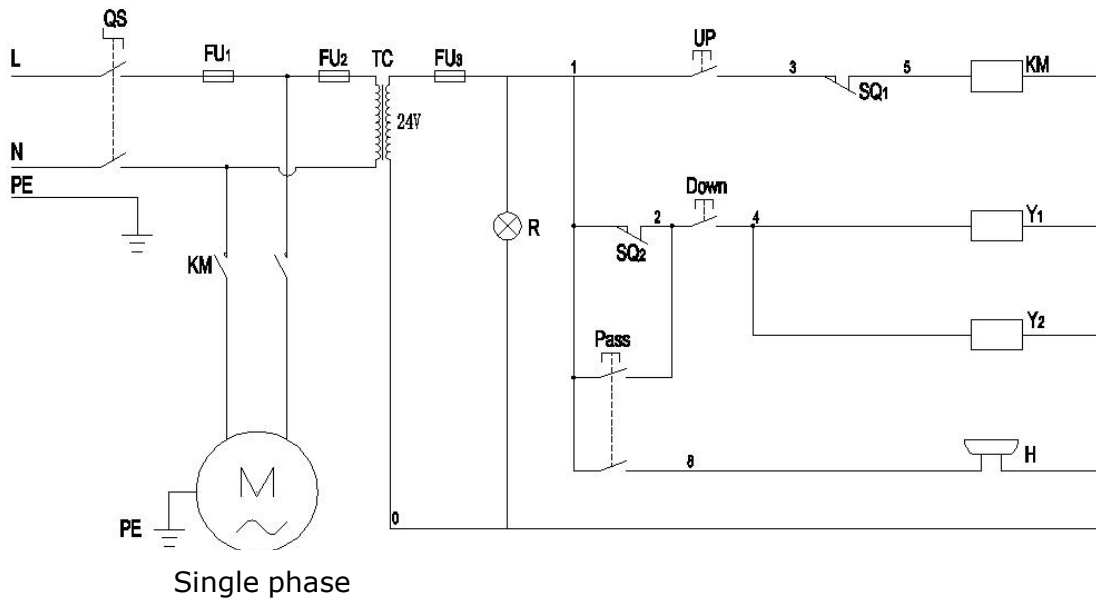

Fig. 13
1.2 Circuit Diagram (See **Fig. 13**).